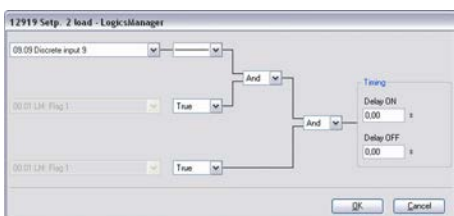

Fig. 189: LogicsManager function "Setp. 2 load"
3. ➤ Configure the LogicsManager function "Setp. 2 load" as shown in (Fig. 189) to enable load setpoint 2 if discrete input [DI 09] is energized.